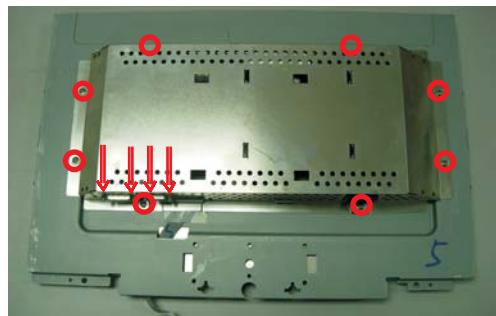

Fig.13
- Remove the eight screws as shown in Fig.13
- Disconnect D-SUB & DVI hexagonal screws as shown in Fig.13